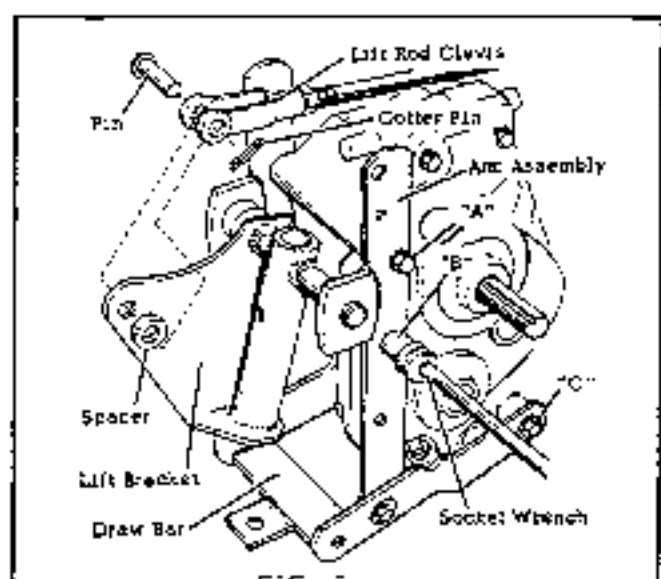

FIG. 5
9. Dis-connect the lift rod clevis from the rear lift bracket by removing the cotter pin, spacer, and pin as shown in Fig. 5. Remove hex capscrews "A", "B", and "C" from both sides of the arm assembly and lift off the drawbar, rear lift bracket, and arm assembly as one piece.